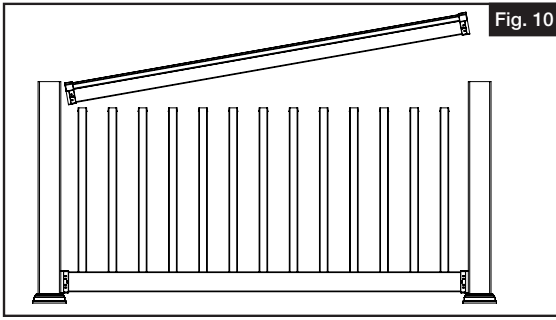

Fig. 10
- b. Begin at one side of rail and align first baluster with first routed hole on bottom side of top rail and snap top rail into position (Fig. 10).